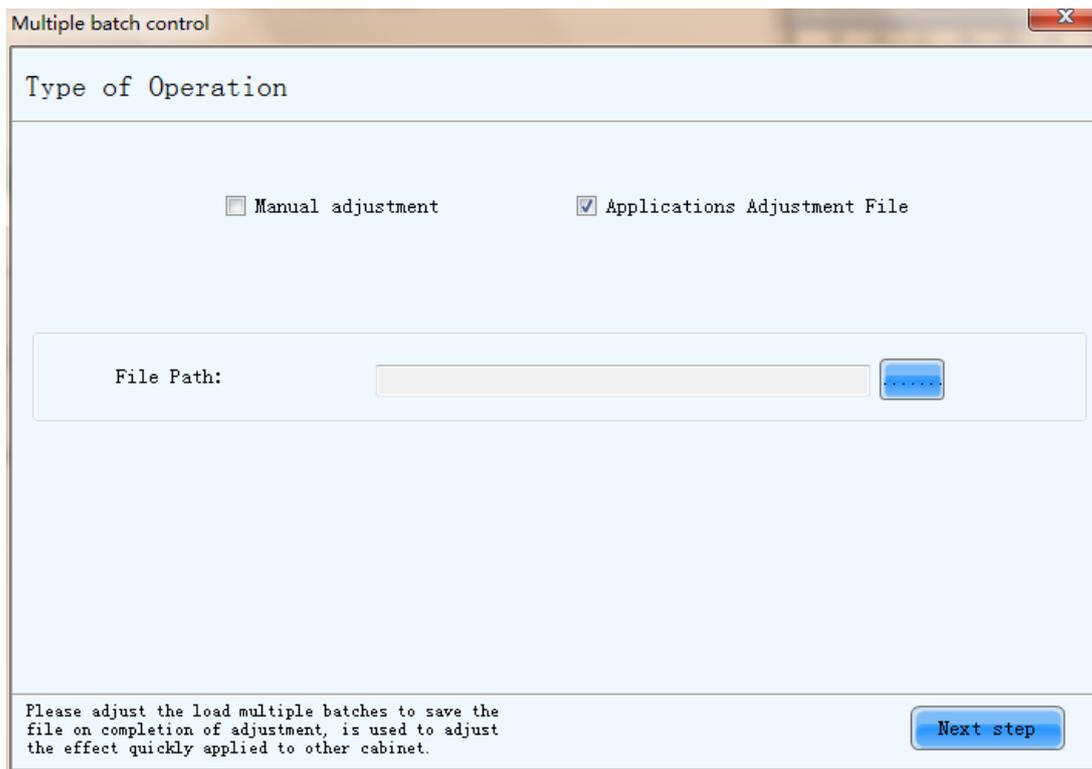

Fig. 7-2 Applications Adjustment File
- 1) Directly load the adjustment file previously saved, as shown in Figure 7-2.